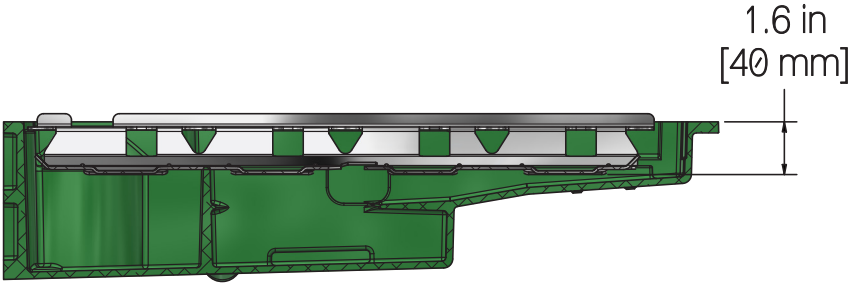

Figure 2 - Minimum Aftermarket Oil Pan Depth
- See Figure 2 to verify the aftermarket pan is deep enough.